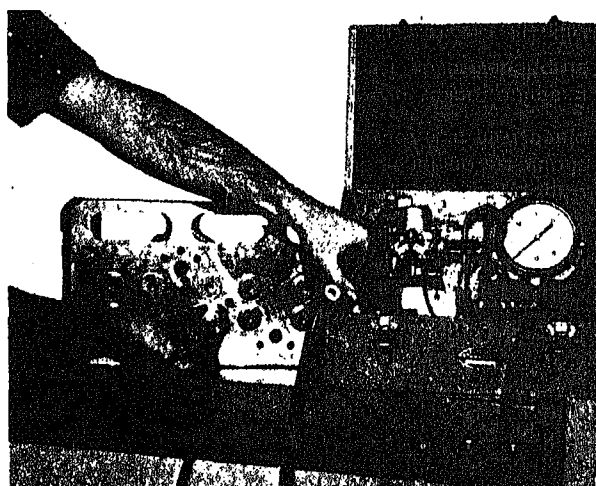

Fig. 2-6-1. Vacuum testing valves for leaks
A vacuum tester to check valves and seats for leakage is available. It consists of a vacuum pump, vacuum gauge and vacuum cup. Use with any 6-volt battery source or 110-volt electrical outlet as required. Fig. 2-6-1.
2. Select proper vacuum cup (1, Fig. 2-6-1) for size valve to be tested. Cups are furnished with each tester so all engine models can be tested.
4. Turn hand shut-off valve to open position; hold push button (2) to operate vacuum pump.
6. Close shut-off valve (4); release push button to stop pump.